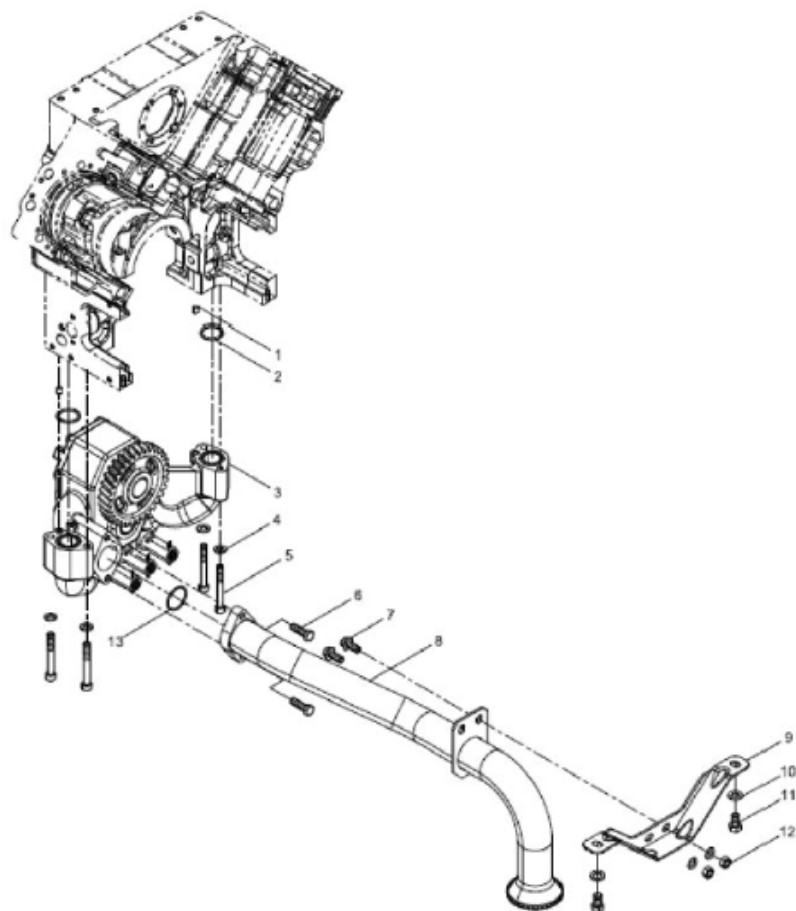

Figure 11. Oil Pump Assembly
3. Remove the four bolts and washers (Figure 11, Items 4 & 5) from under the oil pump.
4. Remove the bolt (Figure 11, Item 6) from the rear of the oil pump and remove the O-ring (Figure 11, Item 13).
5. Remove the oil pump (Figure 11, Item 3).
6. Remove both bolts from the strainer bracket (Figure 11, Item 7).
7. Carefully remove the oil strainer (Figure 11, Item 8)
1. Insert oil strainer (Figure 11, Item 8) onto the oil strainer bracket (Figure 11, Item 9).
2. Insert and tighten both bolts (Figure 11, Item 7).
3. Install a new O-ring (Figure 11, Item 13) and tighten bolt (Figure 11, Item 6) on the oil pump.
4. Insert new O-rings (Figure 11, Item 2) on top of the oil pump.
5. Insert and tighten down the four bolt and washers (Figure 11, Items 4 & 5) from the bottom of the oil pump.